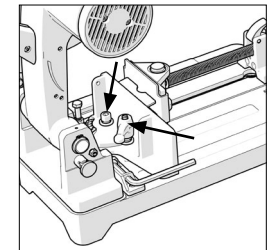

Fig. 8
- Loosen the M10 socket headed screw and the lever handled locking screw. **(Fig. 8)**